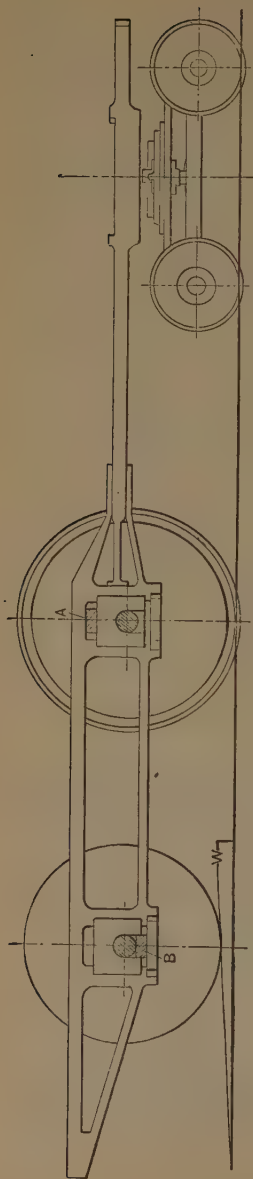

Fig. 411. Back Driver with Tire Removed.
A. Take off rods (only to lighten weight on the front driving axle; keep down water in boiler for the same reason), run up the tireless wheel (see Fig. 411) on a wedge *W*; chock (with an iron block) between front driving box and frame, replace the oil cellar with wood blocking *B*; if necessary disconnect and take out the springs. Pass a chain from the tail beam at the same corner with the tireless wheel through over the drawbar to the opposite tank corner; tighten this chain with wedges.